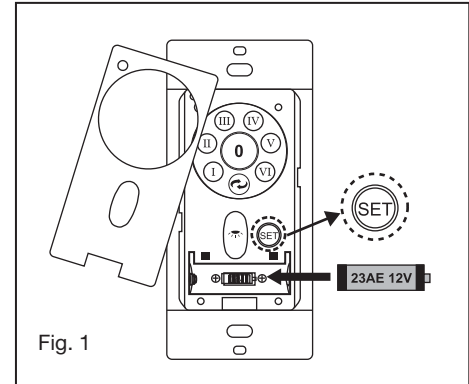

Fig. 1
- 1 Insert the receiver into the top of the fan housing. (Fig. 1) For best performance, make sure the Black Antenna, on the end of the receiver, remains extended and not tangled with any of the electrical wires.
- 1 Move fan into position over the mounting bracket and secure with the 4 screws provided. (Fig. 1)
- 3 Place the key holes on the LED assembly over the 2 screws previously loosened, turn the light plate until it locks in place at the narrow section of the key holes. Secure by tightening the 2 screws previously loosened and the one previously removed. (Fig. 1)
- 1 Remove the existing wall plate and the old switch from the wall outlet box. (Fig. 1)
Follow the below steps to use the set button. (Fig. 1)